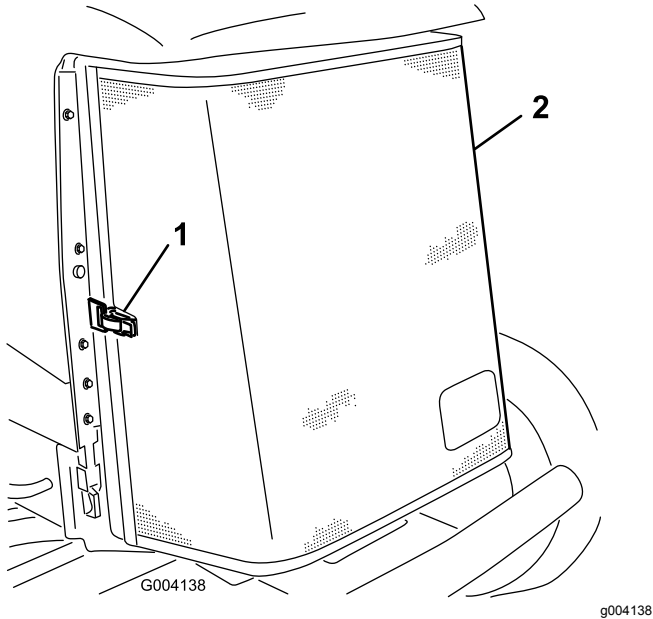

Figure 50
3. Unlatch the clamp and pivot open the rear screen (Figure 50).